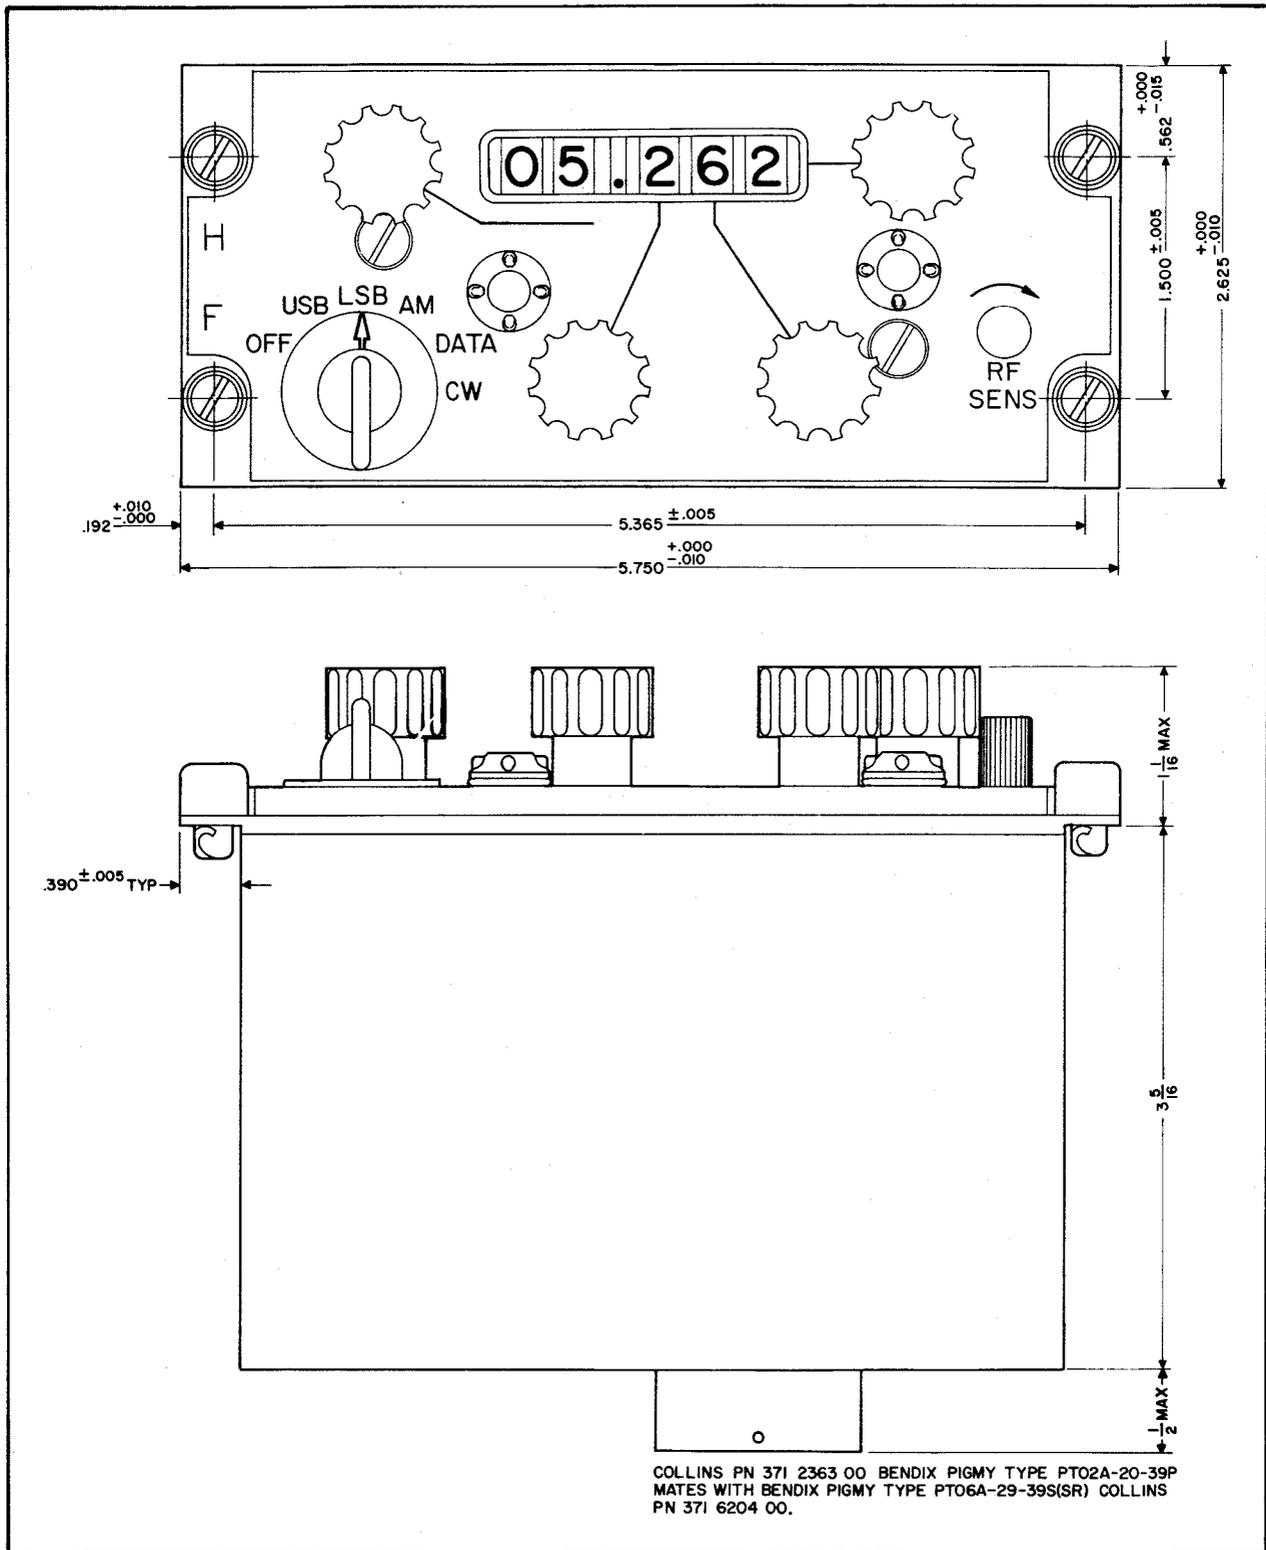

Figure 3-5. Outline and Mounting Dimensions for Radio Set Control C-3940/ARC-94
- f. Install Radio Set Control C-3940/ARC-94 in the aircraft instrument panel in the desired position. Refer to figure 3-5 for outline and mounting dimensions for C-3940/ARC-94.